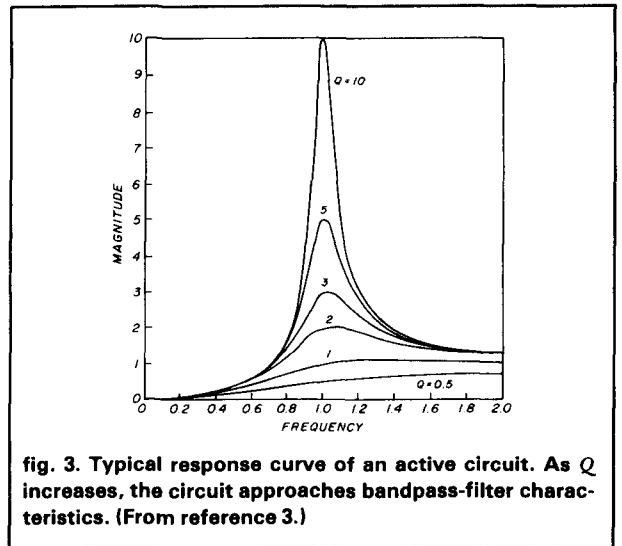
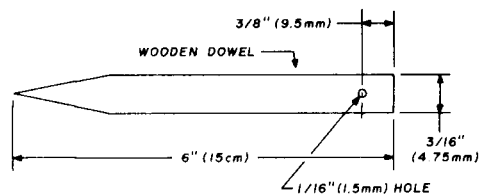
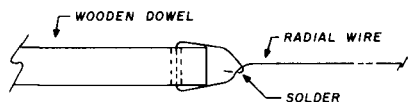

fig. 3. Typical response curve of an active circuit. As Q increases, the circuit approaches bandpass-filter characteristics. (From reference 3.)
fig. 1. Threading tool made from a piece of wood dowel.
fig. 2. Method for securing radial wire to the wooden threading tool, or "needle."
In table 1 I've provided some suggested component values and center frequencies for fig. 2. Use 10 per cent or better tolerance values of C to ensure that the center frequencies arrive at computed values.
tors. If you decide to experiment with the formula in fig. 2, the calculator algorithm will save time and work. Whether you work longhand or use a calculator, remember that the C values in the equation are in farads; the typical circuit values are in microfarads (μF). Remember also to divide the μF value by 10^6 to convert to farads before substituting into the equation.
only one op amp and a minimum number of related components. At first glance, the circuit of fig. 2 might appear to be a highpass and a lowpass section. A bandpass characteristic can be generated by the circuit of fig. 2 because, at sufficiently high Q , both low and highpass active circuits exhibit bandpass functions.³ The peaks shown in fig. 3 illustrate the similarity to a bandpass function that the lowpass and highpass functions can exhibit. The circuits of U1B, U1C, and U1D (fig. 2) each generate a function similar to those of fig. 3 and fig. 1. To combine the three active circuits, I use each to independently control the response of a master amplifier, U1A. Its output reflects the constant Q peak generated by U1B, U1C, and U1D. The characteristics of the three tuned circuits remain constant. Only the response of U1A is modified by the degree to which U1B, U1C, and U1D are inserted. The VBE circuit gives ± 12 dB of adjustment with minimal interaction between controls.
An additional number of filters could be added to the VBE circuit by an enterprising builder. Simply add extra controls and extra active tuned circuits. Adjust their frequency centers by substituting C values according to the equation shown in **fig. 2**.
fig. 3. Preparing radials for threading into a grass surface. Each radial is uncoiled and laid on the ground in a direction opposite to that in which it is to be laid along the earth, (A). Sketch (B) shows how the wooden needle is placed underneath the antenna base and pointed in the desired direction. These views are shown looking down on the antenna base.
hole through the dowel 3/8 inch (9.5 mm) from the end (fig. 1). I made 14 of these needles — and was then ready to begin laying the radials.
Each radial consisted of a length of No. 22 (0.6 mm) copper wire, wire obtained from a 50-foot (15-meter) spool of twisted antenna wire (Radio Shack catalog no. 278-1329). This twisted wire, which is made of seven strands of No. 22 (0.6-mm) wire, was cut in half, resulting in two 25-foot (7.6-meter) lengths. I soldered one end of each length to a spade lug for attachment to the antenna base. I then untwisted each length into seven individual strands and coiled them to prevent tangles. I threaded the free end of each strand through the hole in the wooden needle, looped it back upon itself to form a bridle, then soldered, (fig. 2).